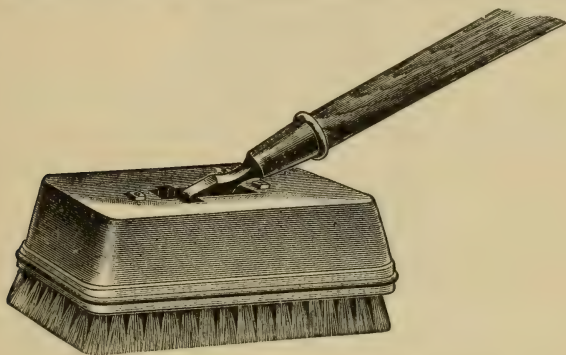

Fig. 22—Angular Bristle Fresco Brushes.
o. Weighted brushes for polishing waxed floors for or waxed varnished ones, are extensively used at the present to imitate dead rubbed polish. They are shown in Fig. 22.